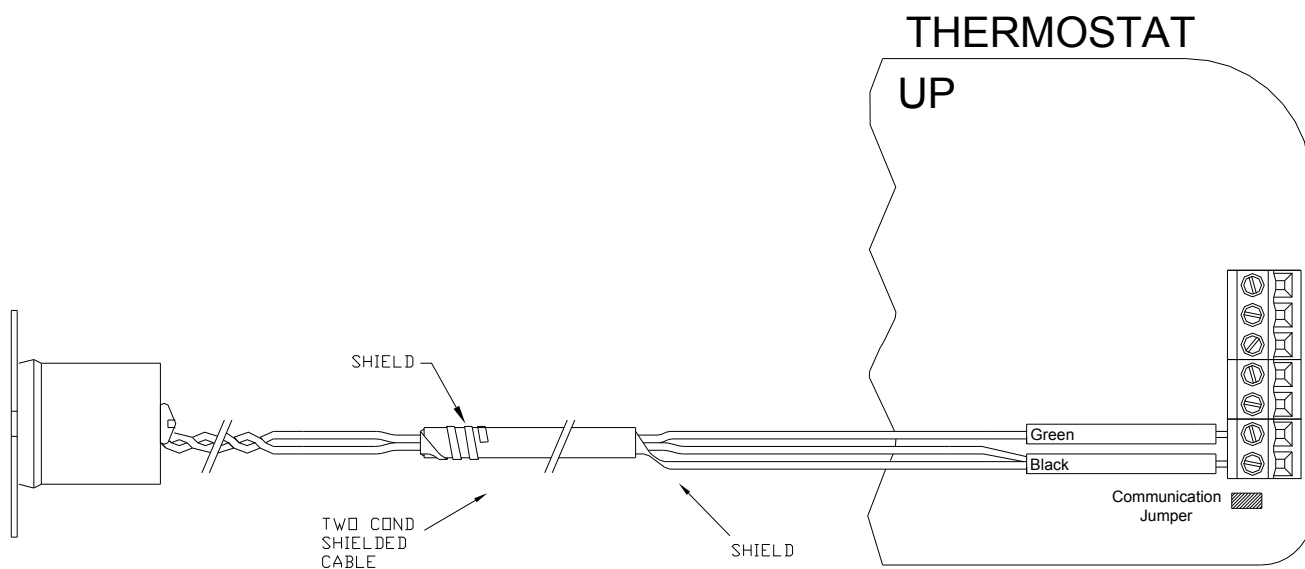

Figure 11 – *Connections to a Remote Temperature Sensor*
Make the connections to the Green and Black terminals under the section marked “Remote Temp Sensor” on the right terminal strip - See *Figure 11*.
1. *When connecting a remote temperature sensor, the shield and one of the wires from the remote temperature sensor are tied together and get connected to the Black terminal – See Figure 11.*